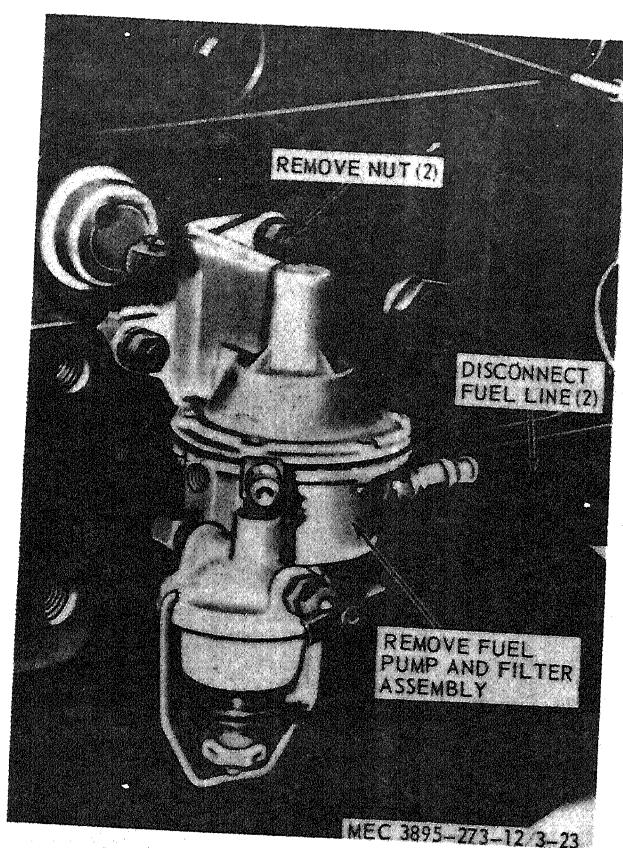

Figure 3-21. Fuel pump, removal and installation.
a. Removal. Remove the fuel pump from the engine as instructed on figure 3-21.
- (1) Clean all parts with an approved cleaning solvent.
- (2) Inspect the fuel pump for wear, leaks, defects, and damage.
- (3) Replace a worn, damaged, or defective fuel pump.
c. *Installation.* Install the fuel pump in reverse of the instructions on figure 3-21. Put new gasket in between pump-flange and pad.